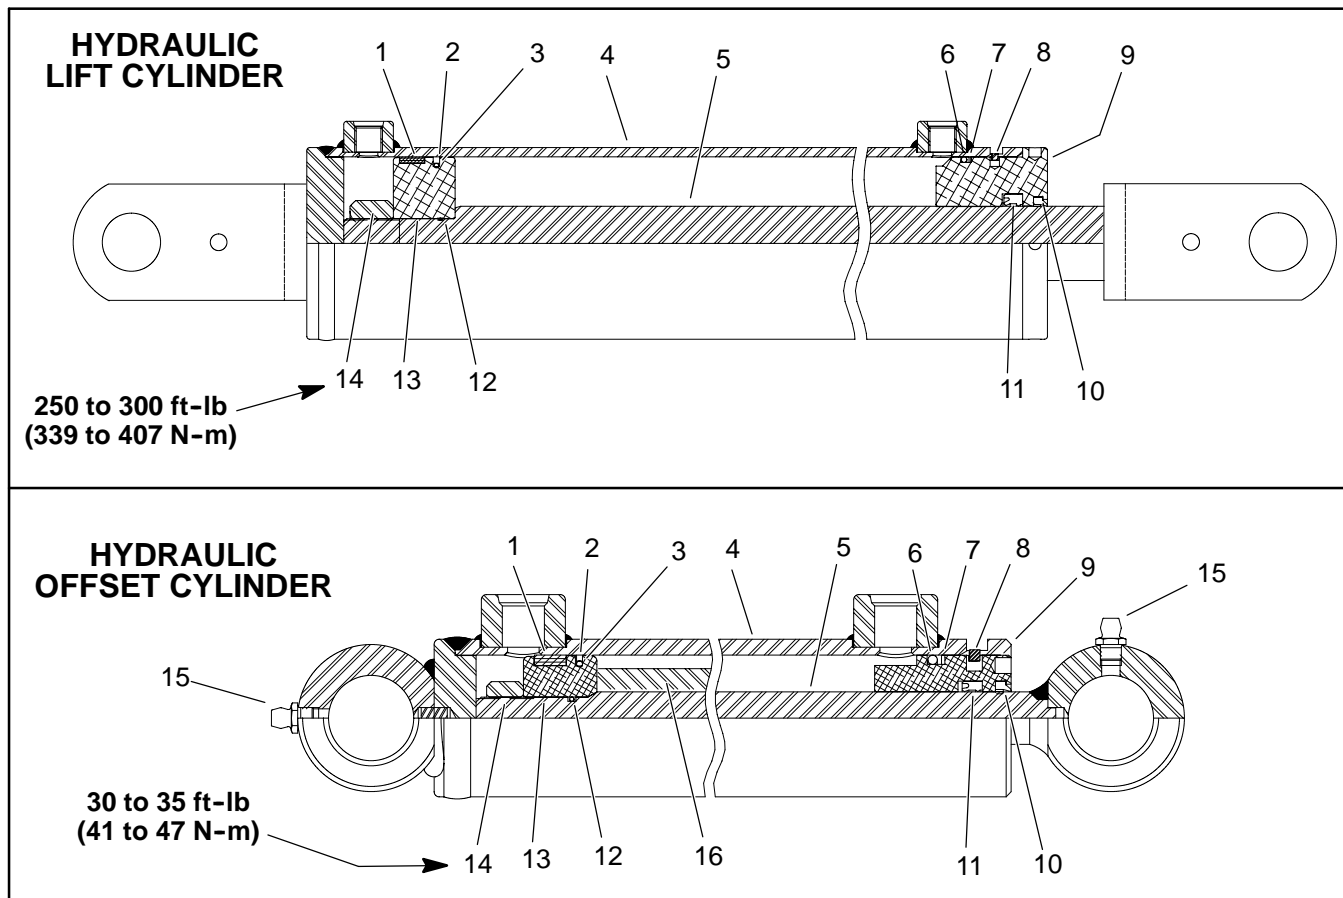

Figure 22
Disassembly (Fig. 22)
Assembly (Fig. 22)
4. Mount rod securely in a vise by clamping vise on the pivot end of the shaft. On offset cylinder, slide spacer (item 16) onto rod. Carefully slide head assembly and piston assembly onto the rod.
5. Thread lock nut (item 14) onto rod. Torque lock nut to value shown in Figure 22.